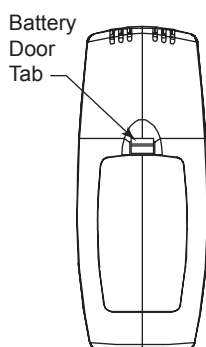

Fig. 58 Battery door tab.
1. Press down the battery door tab and pull out to remove the battery door. (Fig. 58)
4. When three (3) batteries are installed, the transmitter will initialize for 10 seconds and then is ready for use.